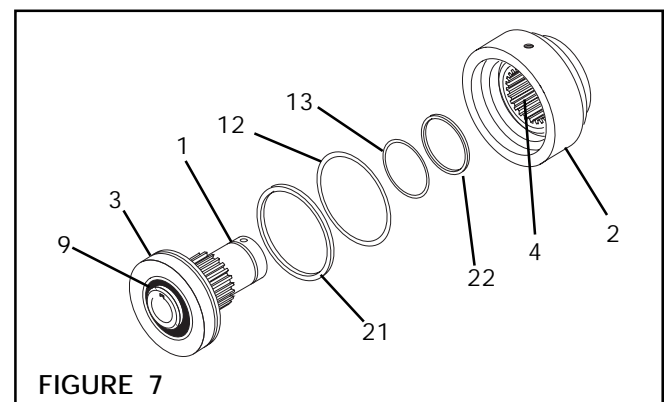

FIGURE 7
6. Separate Cylinder (Item 2) and Drive Ring (Item 4) from Hub (Item 1), Piston (Item 3), and Ball Bearing (Item 9) (See Figure 7).
7. Remove the O-ring Seals (Items 12 and 13) and the Backup Ring Seals (Items 21 and 22) from the Piston (Item 3) and Cylinder (Item 2) (See Figure 7).